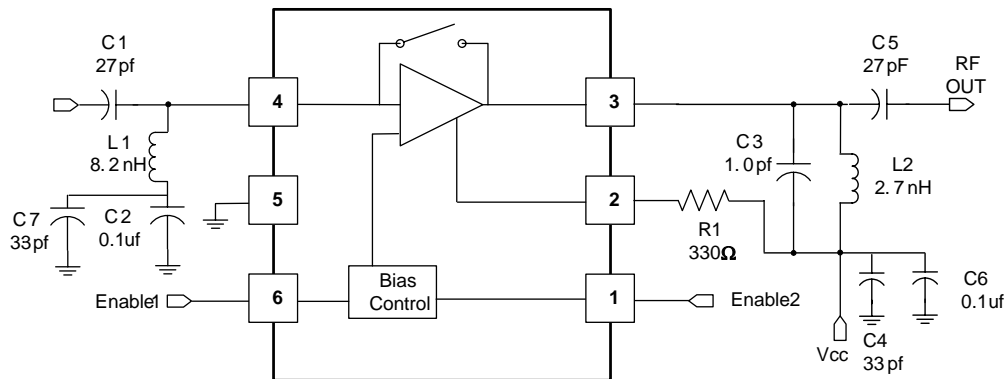
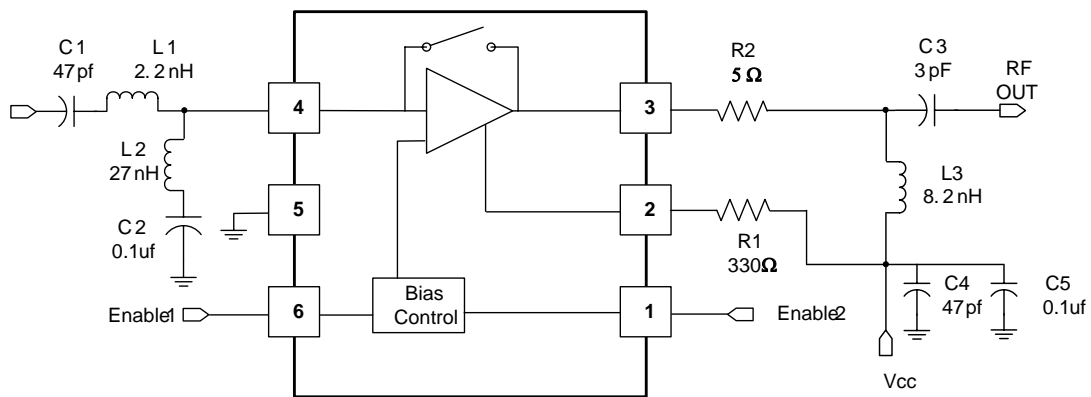
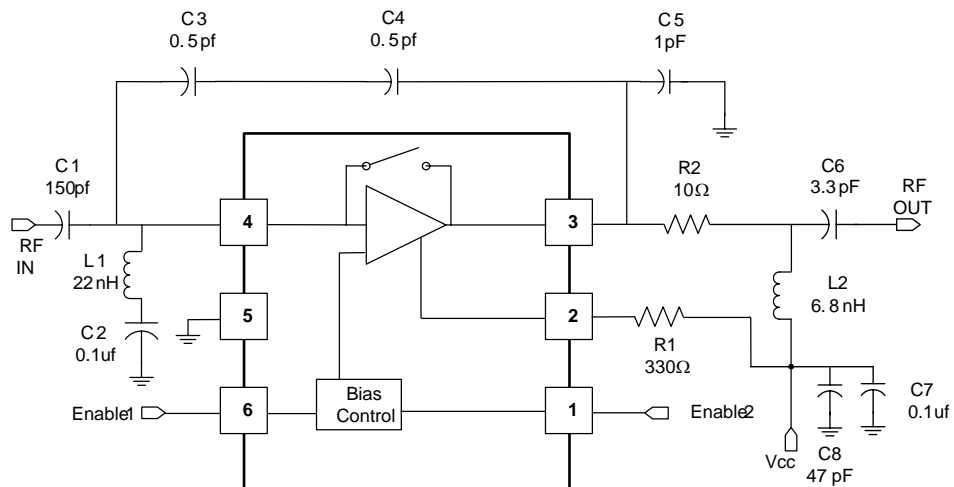

Figure 2. Typical 1.9 and 2.4 GHz LNA Application Schematic
Figure 3. Typical 900 MHz LNA Application Schematic
Figure 4. High IP3 900 MHz LNA Application Schematic
In the design of the external matching network, conjugate matching does not necessarily provide the best noise figure performance. Balancing between noise figure, gain, and intercept point is the major design consideration. Typical circuits are provided in Figure 2 and Figure 3 for 1.9 GHz, 2.4 GHz and 900 MHz applications.
Figure 2 shows the typical application circuit at 1.9 and 2.4 GHz. The noise figure, input intercept point, gain, and return losses are optimized. L1 and C2 act as a low frequency trap to improve the input intercept point.
In Figure 3, the typical application circuit for 900 MHz is shown. The input low frequency trap again is used to maximize the input intercept point. It has moderate IP3 performance and high gain. Figure 4 shows
1900 MHz <a href="#">Figure 2</a> Application Circuit
900 MHz <a href="#">Figure 3</a> Application Circuit
High IP3 900 MHz <a href="#">Figure 4</a> Application Circuit
900 MHz TYPICAL (See Figure 3)
900 MHz HIGH IP3 (See Figure 4)
1.9 GHz (See Figure 2)
2.4 GHz (See Figure 2)